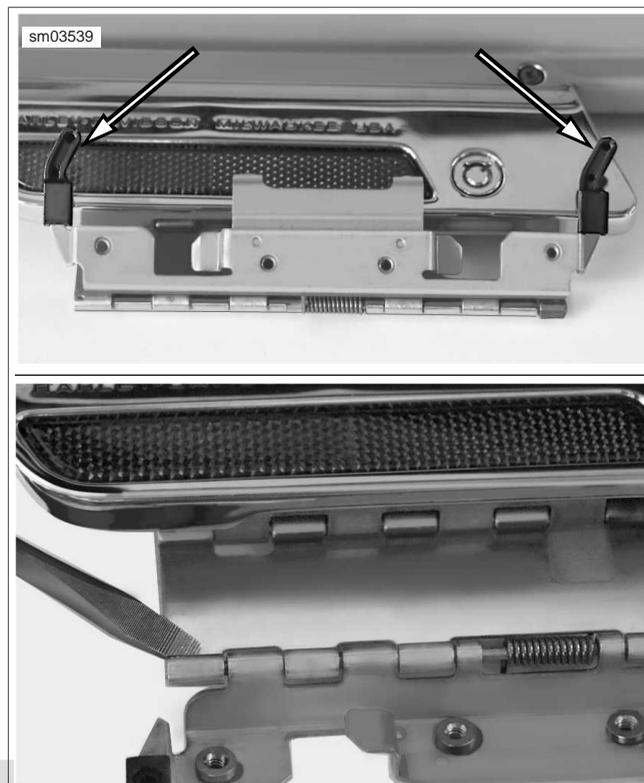

Figure 2-110. Lid Right Side Up With Latch on Near Side
8. Raise latch slightly and rotate hinge on inboard side so that it is topside with the two plastic rub bars pointed upward. See upper frame of Figure 2-110.
9. Rotate rub bar section of hinge to expose hinge pin and spring. Using a flat tip screwdriver, carefully bend crimped end link outward. See lower frame of Figure 2-110.
3. Reposition lid so that it is right side up with latch closest to you. As before, raise latch slightly and rotate hinge on inboard side so that it is topside with plastic rub bars pointing upward. Now rotate rub bar section of hinge to expose hinge pin and spring. See Figure 2-110.